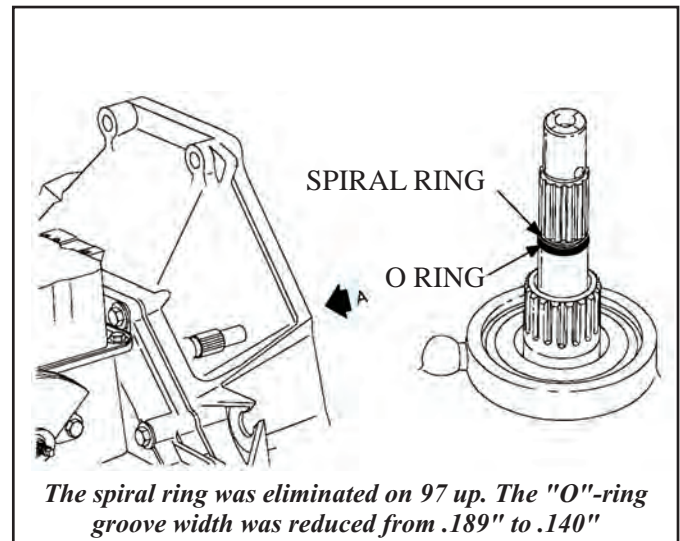

Figure 222
60. Install a new converter O ring on the input shaft. Make sure the O ring is behind the spiral ring on models that use it. (See Figure 222).